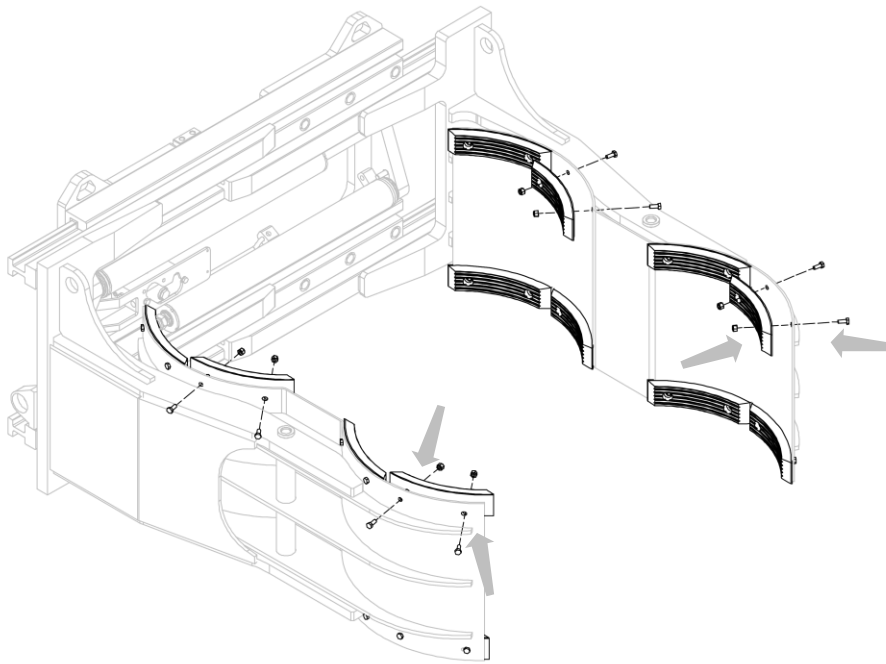
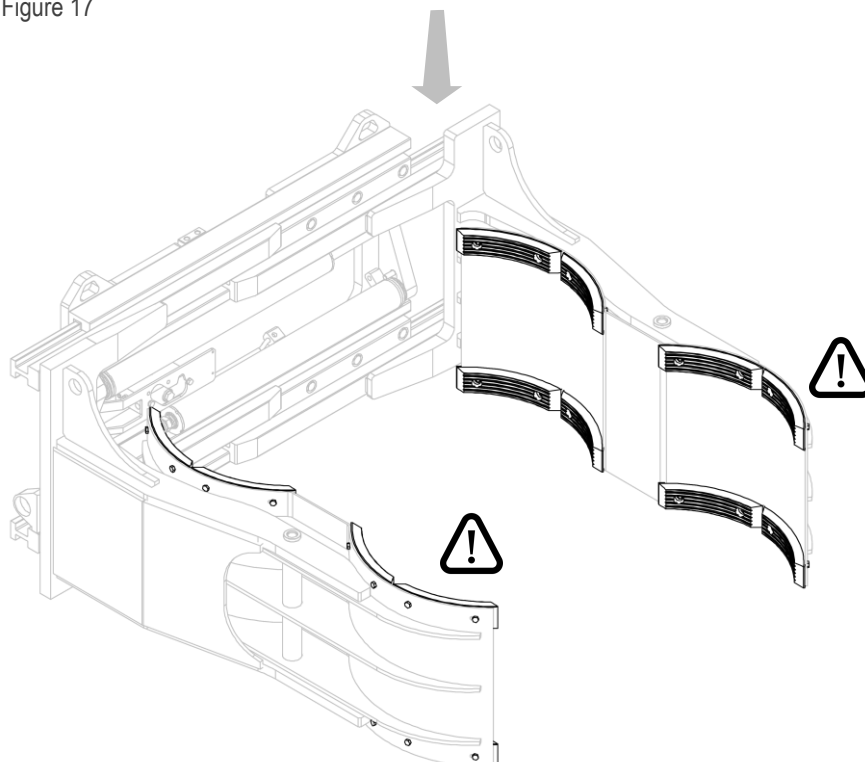

Figure 17
Figure 18
3. Install the rubber pads, using the associated nuts and bolts (see *Figure 17* and *Figure 18*).